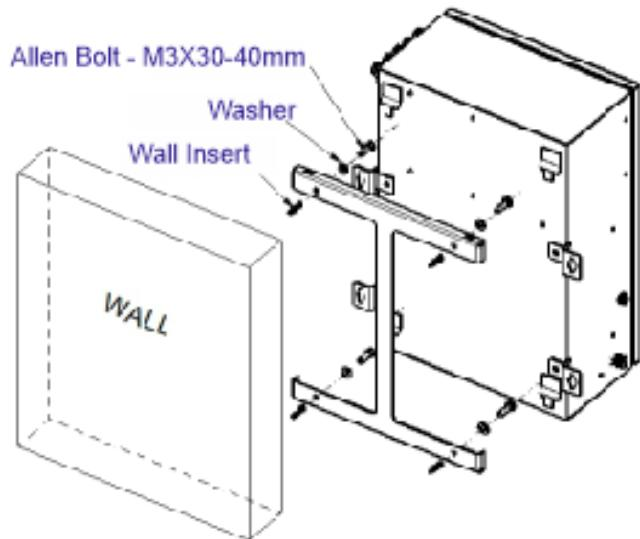
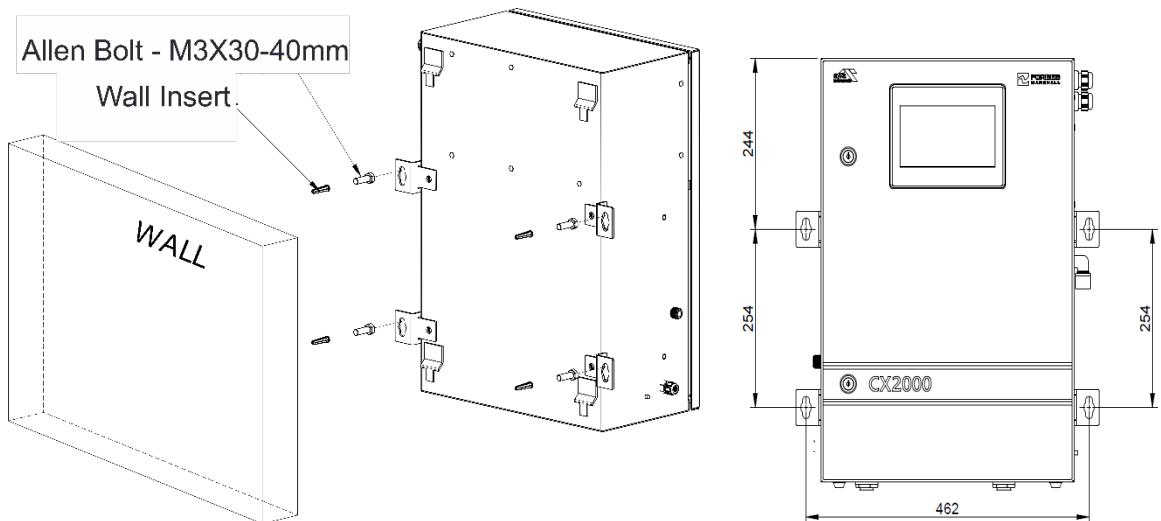

Fig. 3
Fig. 4
4.2.1. Wall Mounting - Bracket Installation (Ref. Fig.3)
4.2.2. Wall Mounting – Without Bracket Installation (Ref. Fig.4)
- Ref. *Fig.3* for mounting without bracket or Ref. *Fig.4* for mounting with bracket options.